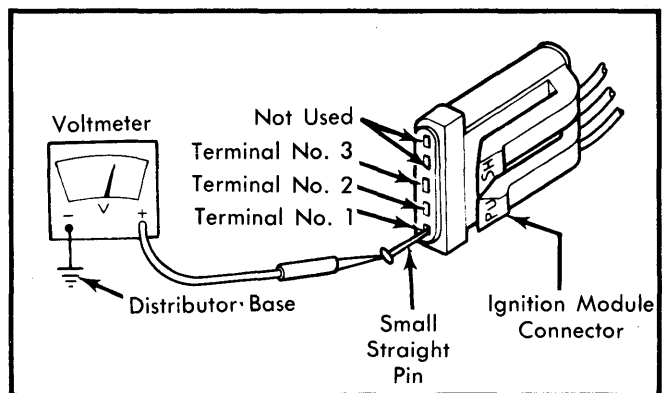

Fig. 5 Test Points for Wiring Harness Check
- Positive voltmeter lead connected to terminal No. 1 of ignition module connector with ignition switch in the "RUN" position. See Fig. 5.
- Positive voltmeter lead connected to terminal No. 2 of ignition module connector with ignition switch in the "RUN" position. See Fig. 5.
- Positive voltmeter lead connected to terminal No. 3 of ignition module connector with ignition switch in the "START" position. See Fig. 5.